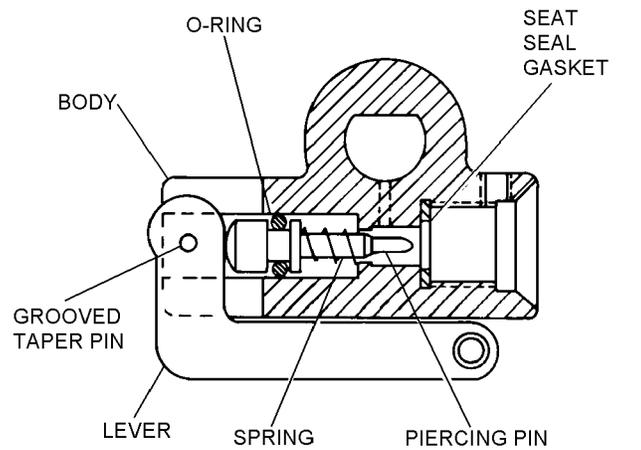

Figure 26-8. CO₂ Inflation Assembly
3. Remove grooved taper pin (retaining lever) from inflation valve, using awl and mallet. See figure 26-8.